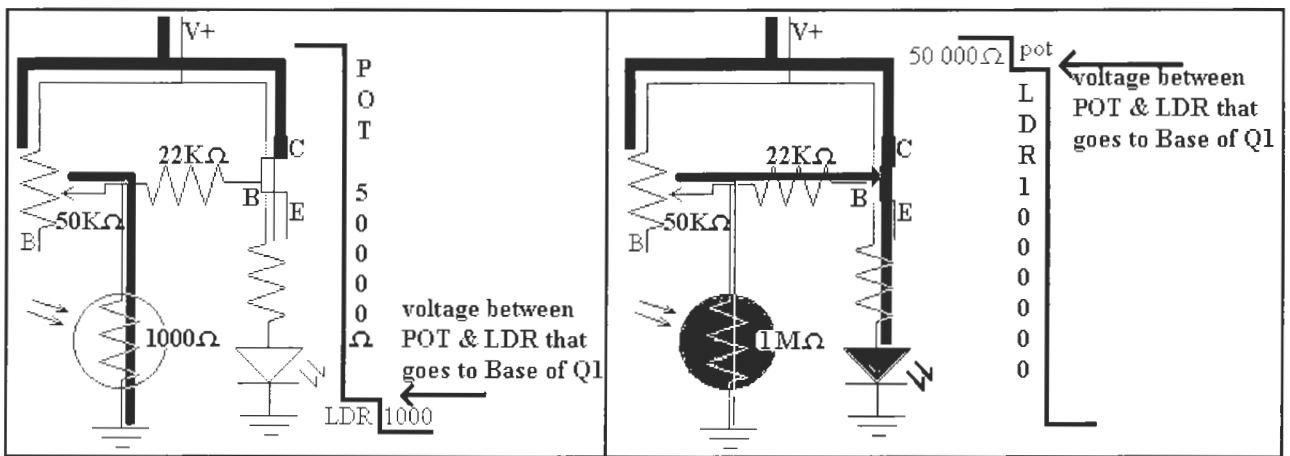

Figure L11-5
- OK. Figure L11-5 will help explain how all the voltage in this circuit is used.